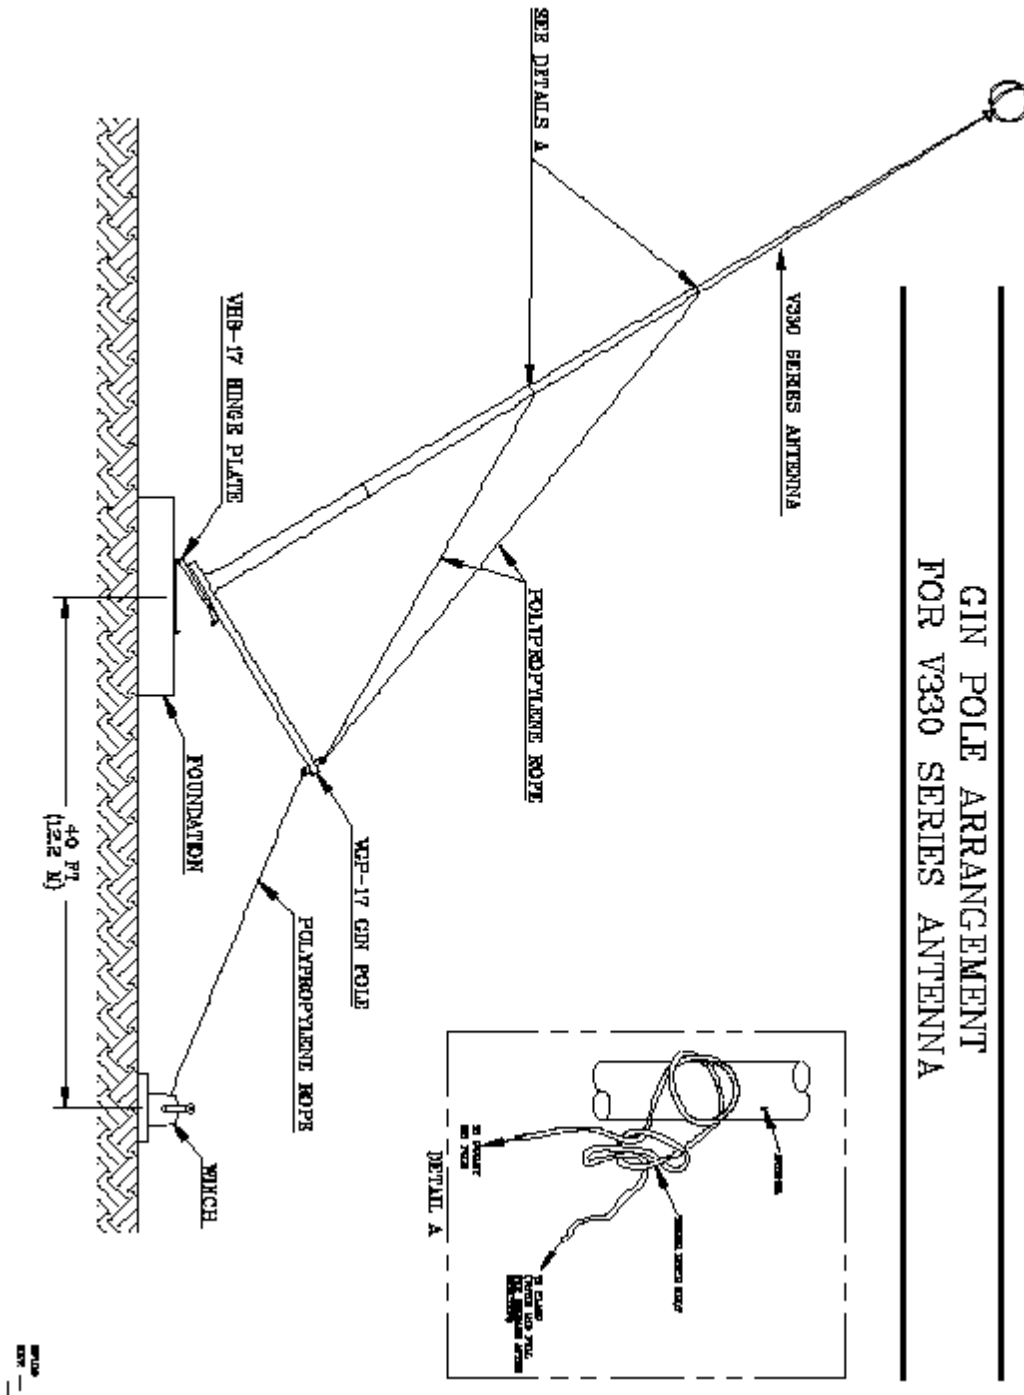

Figure 4.1 - Gin Pole Arrangement for V330 Series Antennas
| Figure 4.1 - Gin Pole Arrangement for V330 Series Antennas | 7 |
The following steps should be followed to assemble the V33070-CL2 antenna (see Figure 4.1).
- (3) Support the base section (item 1, Table 5.1) on two of the saw horses and tie it in place.
- (4) Align mounting holes in the plate with holes of the antenna flange, secure base section to the plate with hardware, fed through from underside.
- (5) Tie a rope (3/4" diameter polypropylene) to one eye of the gin pole, tie another rope as the same type to one eye of the gin pole. Slide gin pole into the pipe attachment and secure.
- (6) Support the second section (item 2, Table 5.1) on the other two saw horses so that the two sections lie in the same straight line.
- (7) Make sure the threads of the male ferrule on the base section are clear of foreign material and free of burrs.
- (8) Assemble the second antenna section onto the base section and tighten to align the arrows at the joint using the strap wrench supplied (item 7, Table 5.1). Install the setscrews and seal with the sealant provided.
- (9) Assemble the third section (item 3 , Table 5.1) to the second section by repeating steps 6 to 8.
- (10) Assemble the fourth section to the third section by repeating steps 6 to 8.
- (11) After all sections are assembled, assemble the Valcosphere to the top of the fourth section. Secure with setscrews and sealant.
- (12) The antenna now is ready to raise to its final position.
- (13) Tie one rope (from gin pole eye) to the position on antenna specified on Figure 4.1. A timber hitch knot is recommended to prevent slipping.
- (14) Erect antenna by applying a gradual and constant pull on the rope referred to as the "Pulling Force" (a winch or vehicle is recommended).
- (15) Once the antenna is in the vertical position, insert retainer pin back into hinge plate, secure with tension pin. Use bolts (supplied) to secure upper and lower plates of the hinge plate together.
- (16) Electrical connections can now be made.